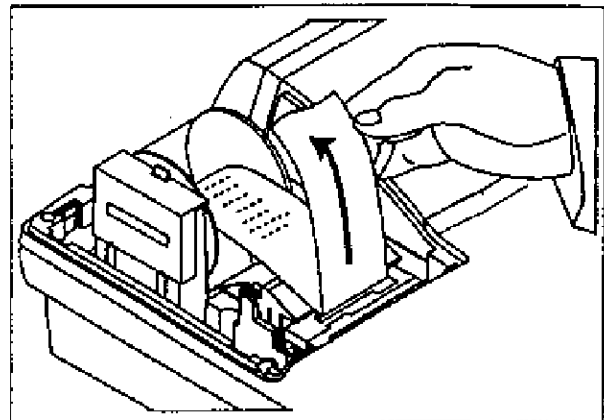

Fig.8
3. Feed the paper about ten lines forward with the **FEED** key. (See Fig.8)